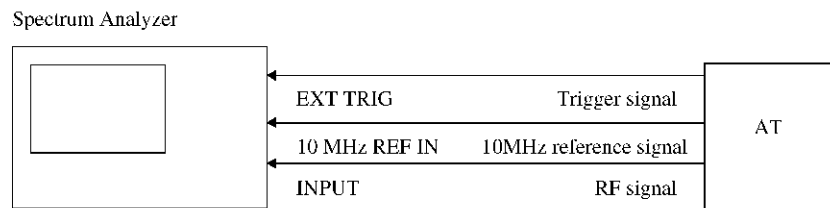

Figure 2-20 Connection for Code Domain Power Measurements of the Access Terminal Signals
1. Connect the equipment as shown in Figure 2-20.